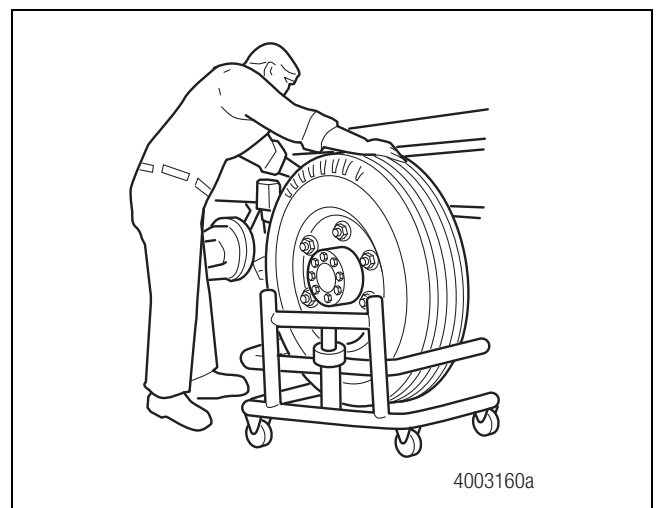

Figure 3.2
4. Remove the tire and wheel assembly, using procedures specified by the wheel manufacturer. Figure 3.2.